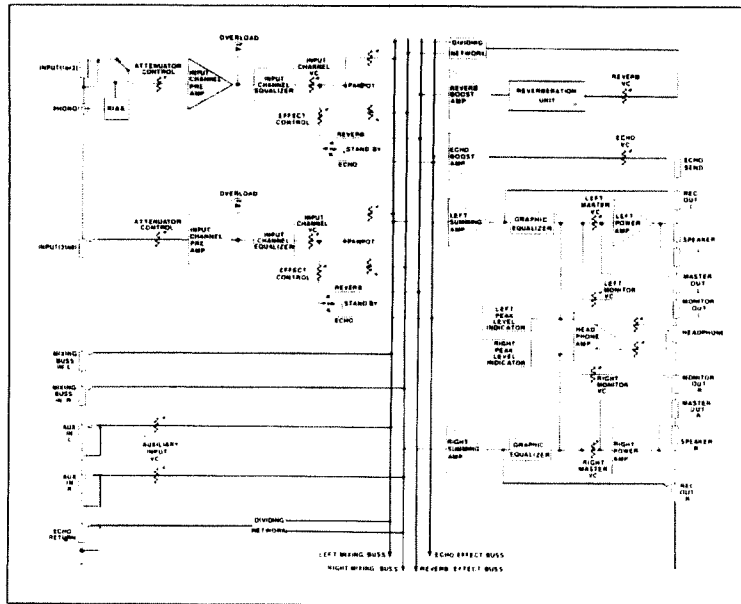

Figure 1
4. Connect signal sources to the proper inputs as outlined in the Rear Panel Connections descriptions and the diagram accompanying this section. (Fig. 1) If the PHONO L and R jacks are used, make sure that the ground wire from the turntable is connected to the post marked GND on the Rear Panel.